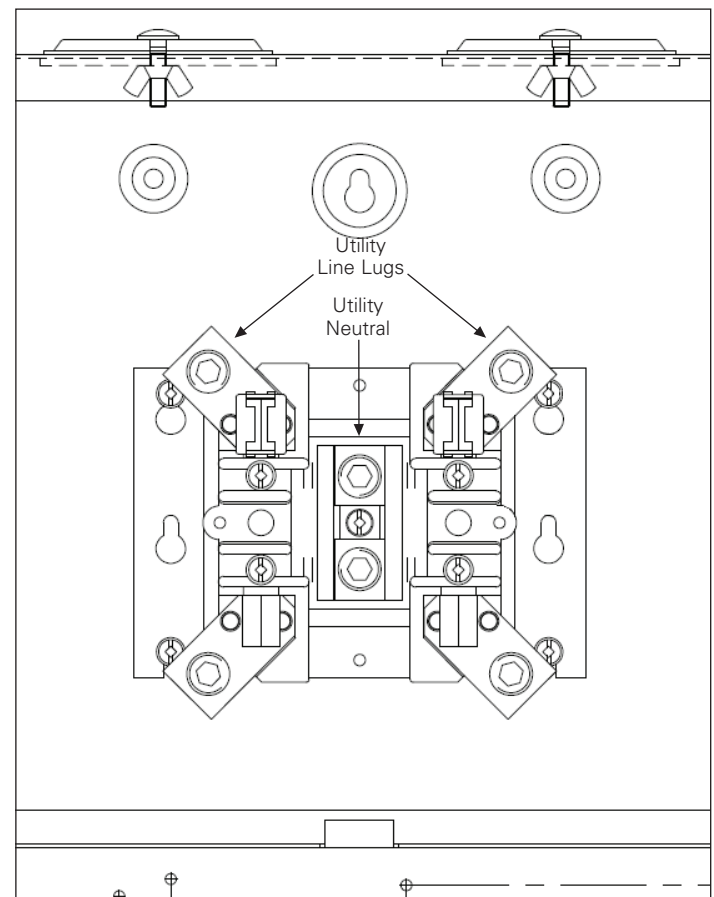

Figure 8. Power and Neutral Utility Cable Connection Locations.
- With the wireway now free to move, slide the wireway upwards into the metering section far enough for the sealing tab on the bottom edge of the wireway to clear the slot it was sitting in (See Figure 8);
- Rotate the bottom end of the wireway inwards towards the center of the enclosure. At the same time begin lifting the bottom end of the wireway away from the back of the enclosure until it will clear the enclosure's bottom edge (See Figure 8). Pull downwards and remove.